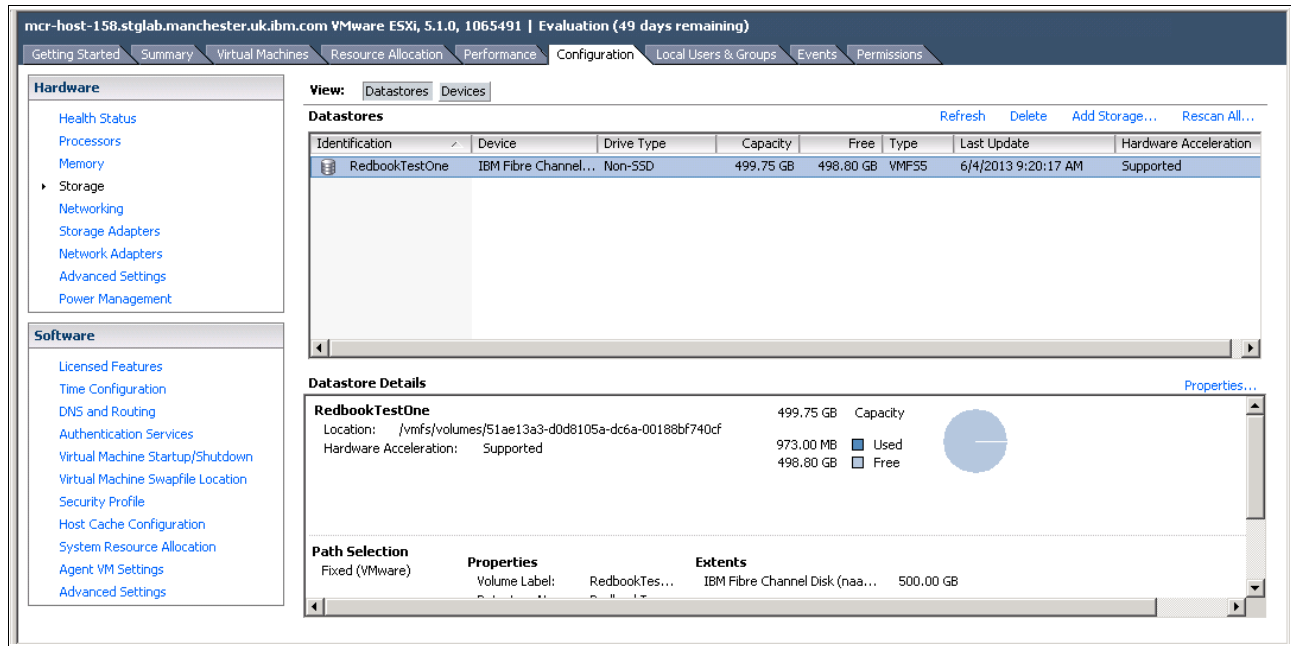

Figure 5-75 Add Storage task complete
- Click **Next** and the final window presents the choice of creating the Datastore with the default maximum size of the volume or a proportion of it. After you click **Finish**, the wizard closes and you return to the storage view. In Figure 5-75, you see that the new volume was added to the configuration.